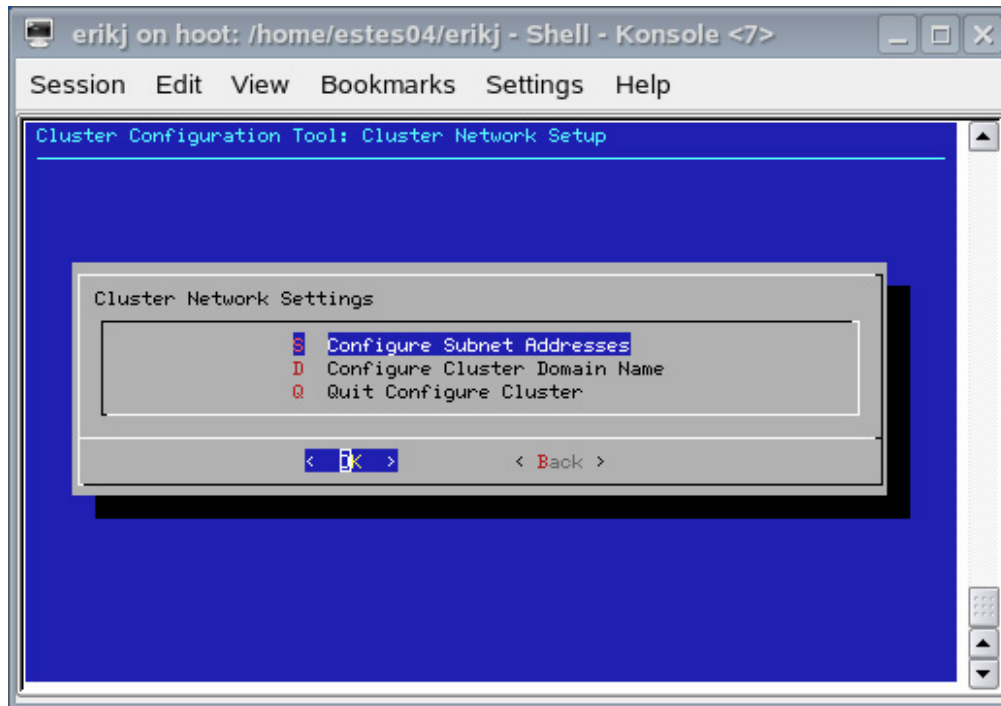

Figure 2-15 Cluster Network Setup Screen
28. The **Cluster Network Setup** screen appears, as shown in Figure 2-15 on page 43.